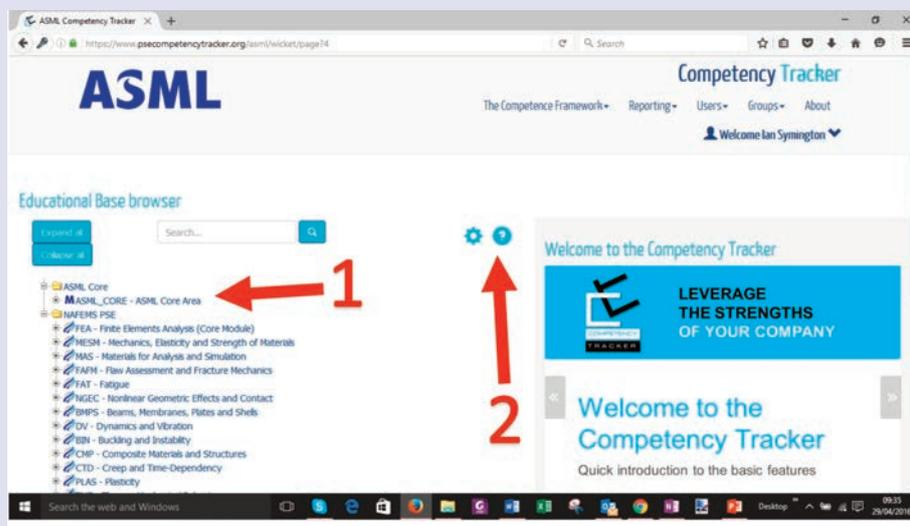

Figure 6 – ASML Customised Competency Tracker
The first modification is the inclusion of an additional technical area containing the 'ASML Core Competencies'. By clearly identifying the core competencies it makes it easy for the engineers who are being asked to participate in the 'Entry Level +' process to be aware of what will be covered in the assessment interview (Item 1 in Figure 6)
The second modification is the inclusion of guidance information specific to the ASML 'Entry Level+' process (item 2 In Figure 6). The guidance information includes the following documents: